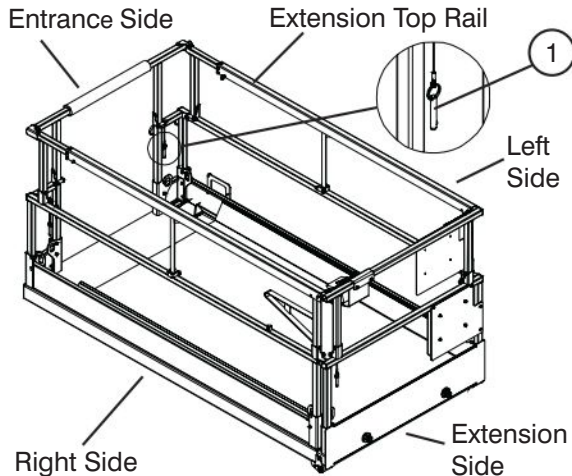

Figure 3-12a. Folding Guardrail System
- Carefully raise each guardrail up and lock into place with locking pins ensuring that the detent ball of each pin is all the way through (Refer to Figure 3-12a).